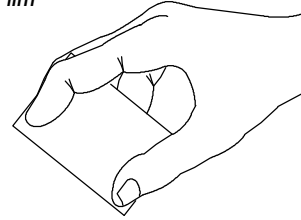

Figure 17
*An alternate method of air polishing is to hold one end of the polishing film between the index and middle fingers and hold the other end of the film between the thumb and the ring finger with the abrasive surface of the film up. Pull the film taut, and air polish the connector tip as described in Step 2 until no traces are visible on the film. See Figure 17.*